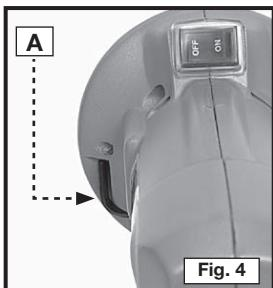

Fig. 4
Use the hex wrench (A) Fig. 4 (stored in the tool housing) to tighten or loosen the bit retaining screws. Use your thumb to rotate the hex wrench clockwise, away from the tool housing. Grasp the wrench to pull it from the storage pocket.